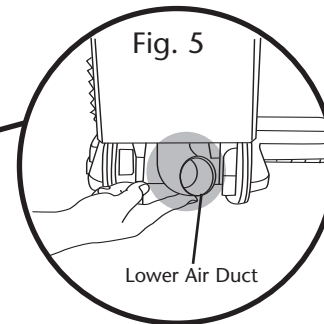

Fig. 5
5. If blockage is not in the wand or upper hose, disconnect the lower air duct hose on the back of the power nozzle (Fig 5). Visually check the lower air duct hose for debris and remove. To check for unobstructed air flow, turn on vacuum and place hand over opening on lower air duct. If you feel proper suction, reconnect lower air duct and resume vacuuming. If blockage is not in lower air duct hose, proceed to step 6.
6. With bottom air duct hose and upper hose and wand disconnected, carefully insert a broom handle (or any similar item like a short length of hose, pipe, etc) approximately 14 inches into wand guide on top of vacuum housing (Fig. 6) to dislodge obstruction or debris. Debris should then drop or move into the lower air duct where you can then remove it with your hand (Fig 5).